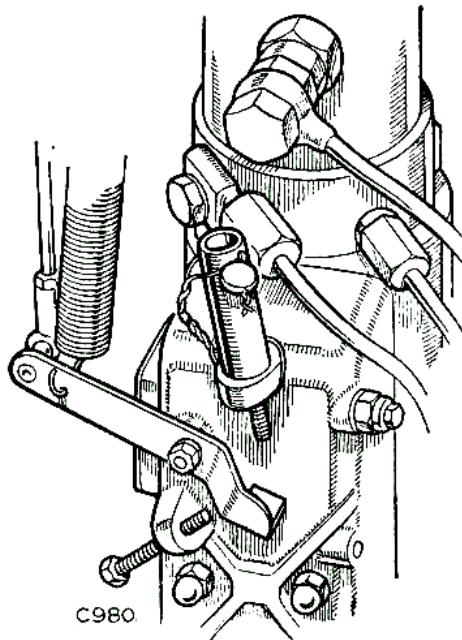

Fig. M-30—Control screws adjusted and sealed.
- (e) When maximum engine speed of 3,650 r.p.m.  $\pm$  20 has been obtained, tighten locknut, replace adjusting screw collar, wire and seal screw collar as shown at Fig. M-30.